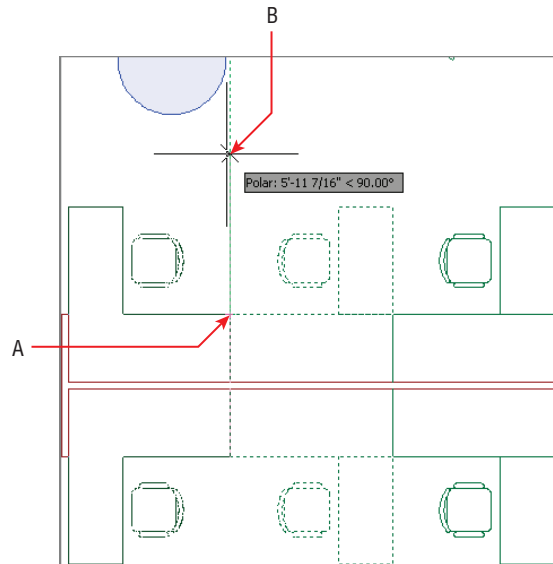

FIGURE 4.26 Mirroring furniture blocks
5. Zoom into the furniture system that is missing two desks in the upper-right quadrant of the building. Click the **Mirror** tool in the **Modify** panel. Make crossing and individual line selections to select the desks and chairs shown in Figure 4.26, and press **Enter**. The command line reads as follows: